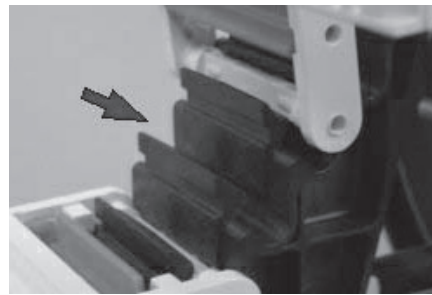

Figure 1
- As the ribbon tray is double-height, the first available slot in the tray support bracket must be skipped (arrow, Figure 1). Holding the tray in a vertical position, insert the tray hinge pin into the second available slot with a rocking motion. (Figure 1)